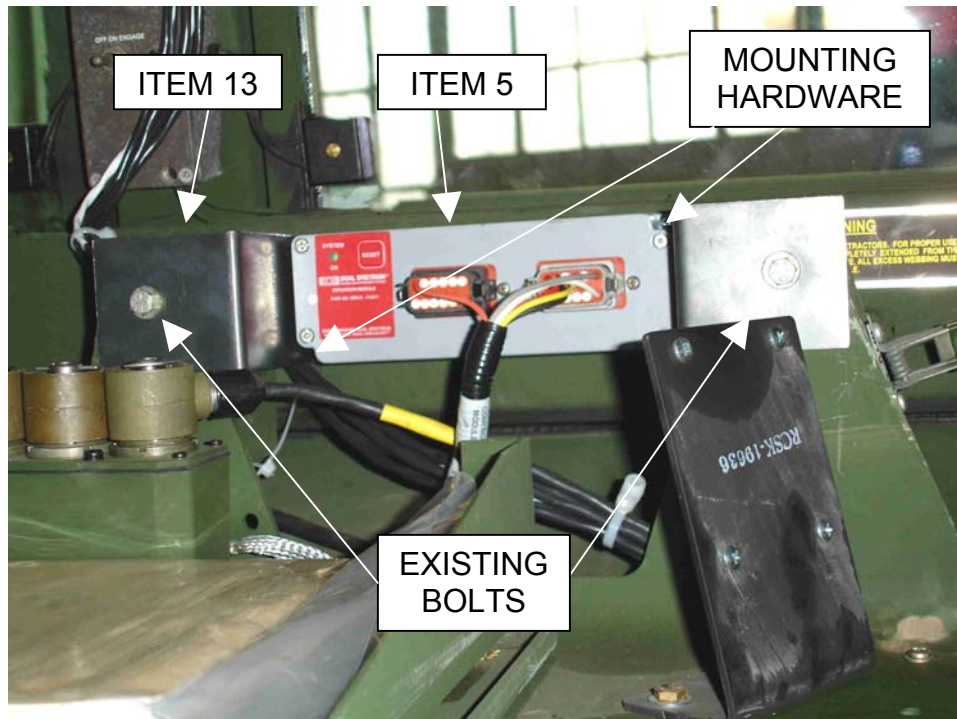

Figure 9. Control Module Bracket
Mount the Control Module Bracket (Item 13) in front of the main radio rack on two existing bolts per Figure 9.
Mount the Control Module (Item 5) to its bracket with #8 x 1/2 pan head screws (2) and locknuts (2) per Figure 9.